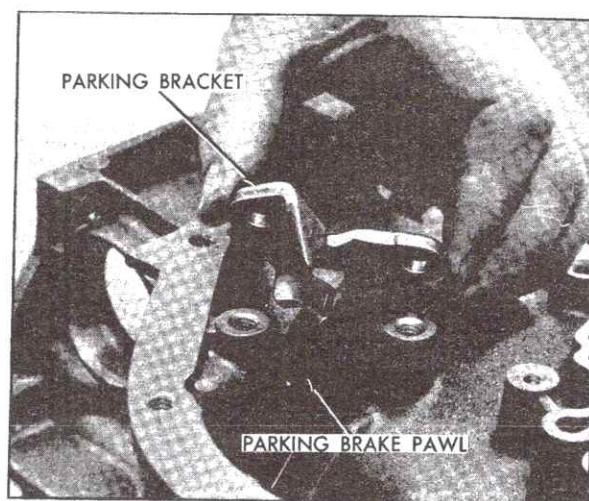

Fig. 7-92 Installing Parking Pawl Bracket
5. Install parking pawl bracket with guides over parking pawl, Fig. 7-92. Install two attaching screws, tightening screws to 18 foot-pounds.